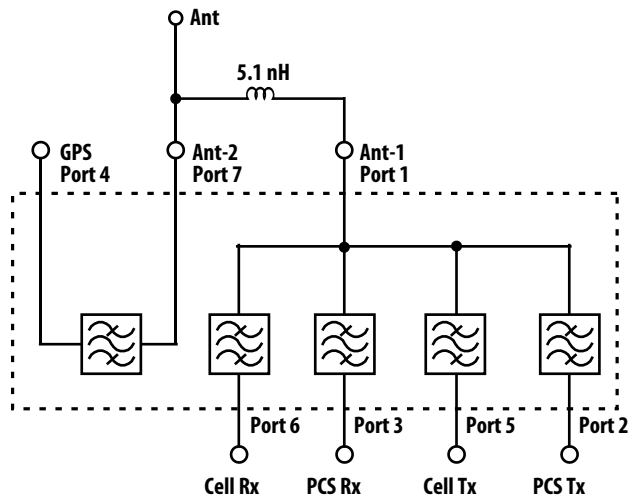

Figure 2. Single Antenna Application.
5. Specifications are for Single Antenna connection as shown in Figure 2 and includes effect of 5.1 nH inductor added between Port 1 (Ant-1) and Port 7 (Ant-2) via simulation.
Optionally, if single antenna operation is required, the Ant-1 and Ant-2 ports of the ACFM-7103 can be connected together as in Figure 2.
2. Single Antenna connection as shown in Figure 2. Data measured with $Z_0=50\ \Omega$ for all ports; performance shown includes effect of 5.1 nH inductor added to Port 1 (Ant-1) and Port 7 (Ant-2) via simulation.